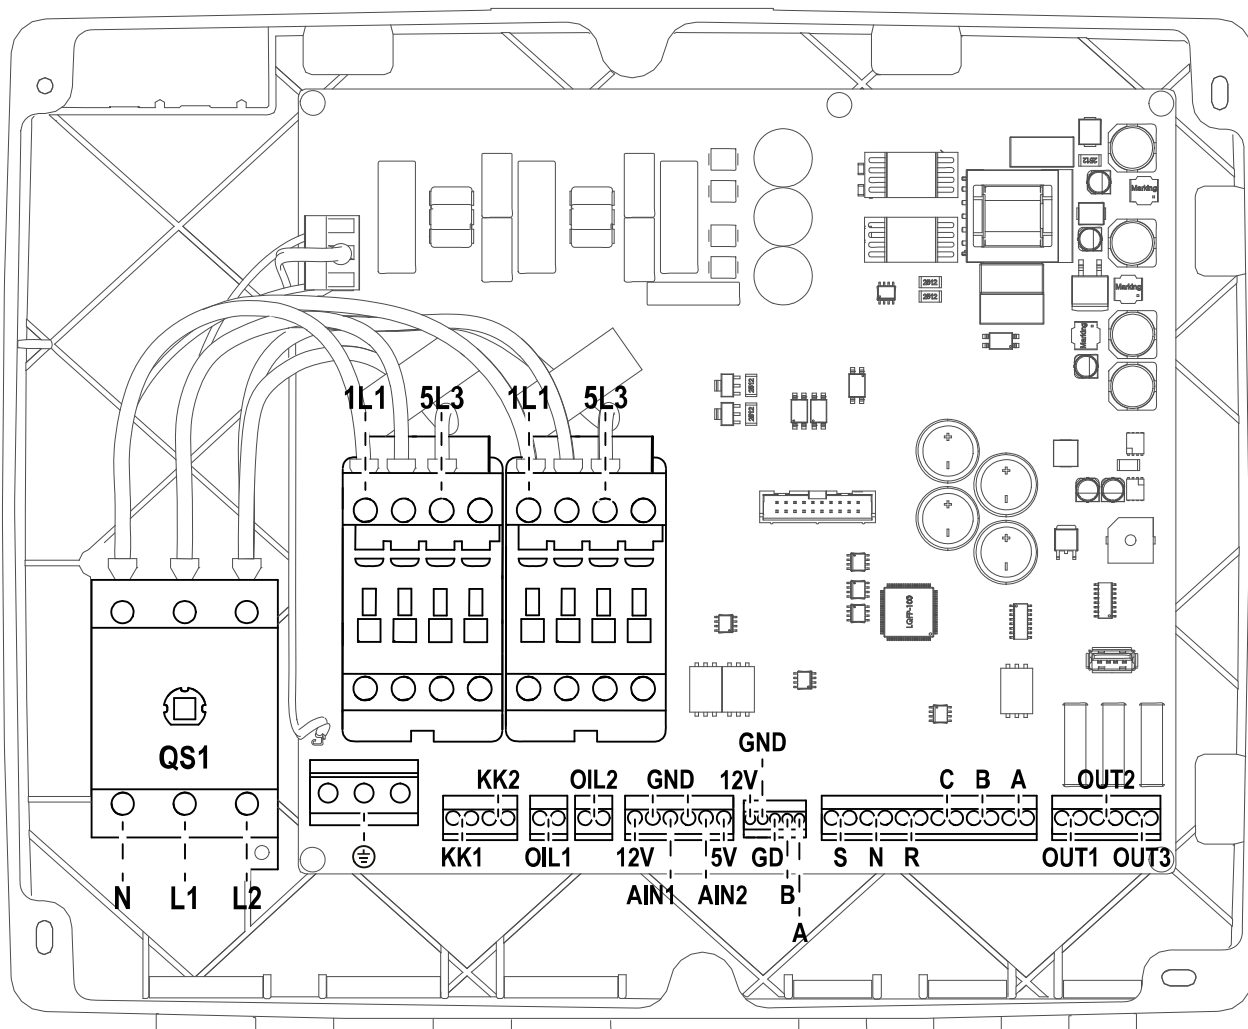

Fig.1: NGPANEL Board
Connection of single-phase pumps with internal capacitor: see Fig.1.
Connection of three-phase pumps: see Fig.1.
Connection of single-phase pumps with external capacitor: see Fig.1.
See Fig.1 and Fig. 2
- **Motor thermal protection:** the device has an input for the thermal protection of each motor. If the motor used is provided with thermal protection, this protection can be connected to the terminals KK. If the protection is not present in the motor, the terminals must be jumpered. The terminals can be seen in Fig.1.